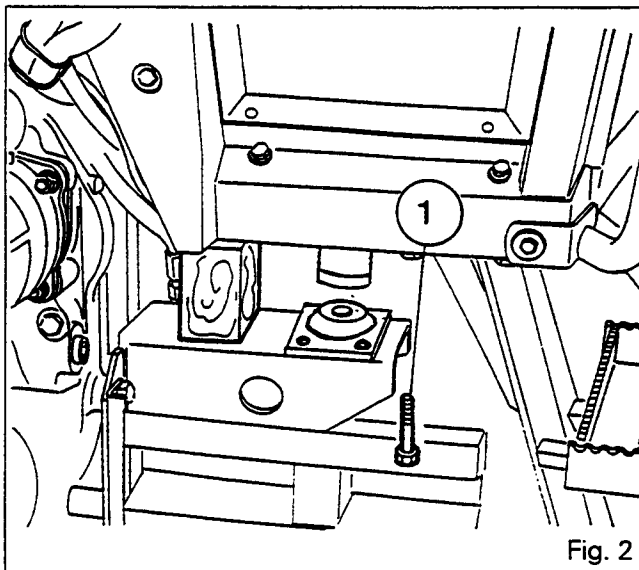

Fig. 2
10. Remove the toolbox and take out the two bolts (1) from the shock absorbers on the right-hand and left-hand cab supports. Slightly raise the cab and fit wedges (4-cylinder engine). (See Fig. 2).
18. Position the cab on its supports, making sure that the balls of the gear lever and reversing lever (if fitted) are correctly fitted in their respective bell housings. Fit the bolts (1) on the shock absorbers (Fig. 2) and tighten them to a torque of 200 to 270 Nm.